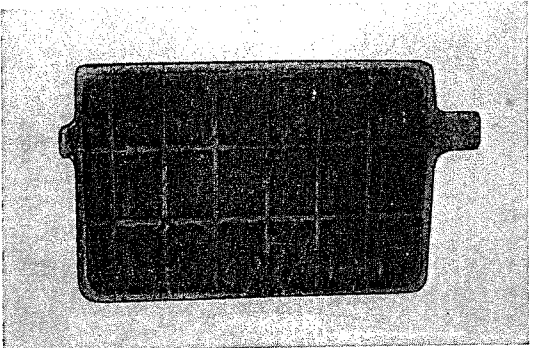

Fig. 5.70 Negative plates
2) Negative plate (Refer to Fig. 5.70)